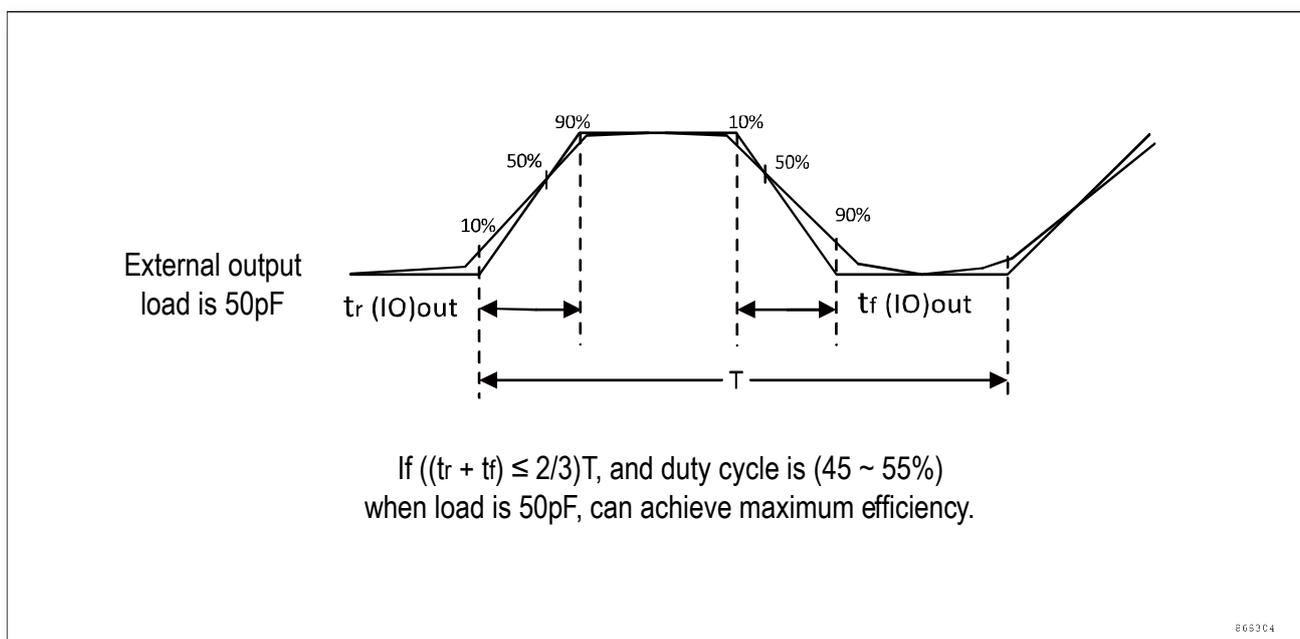

Figure 5-6 I/O AC characteristics
2. The maximum frequency is defined in Figure 5-6.